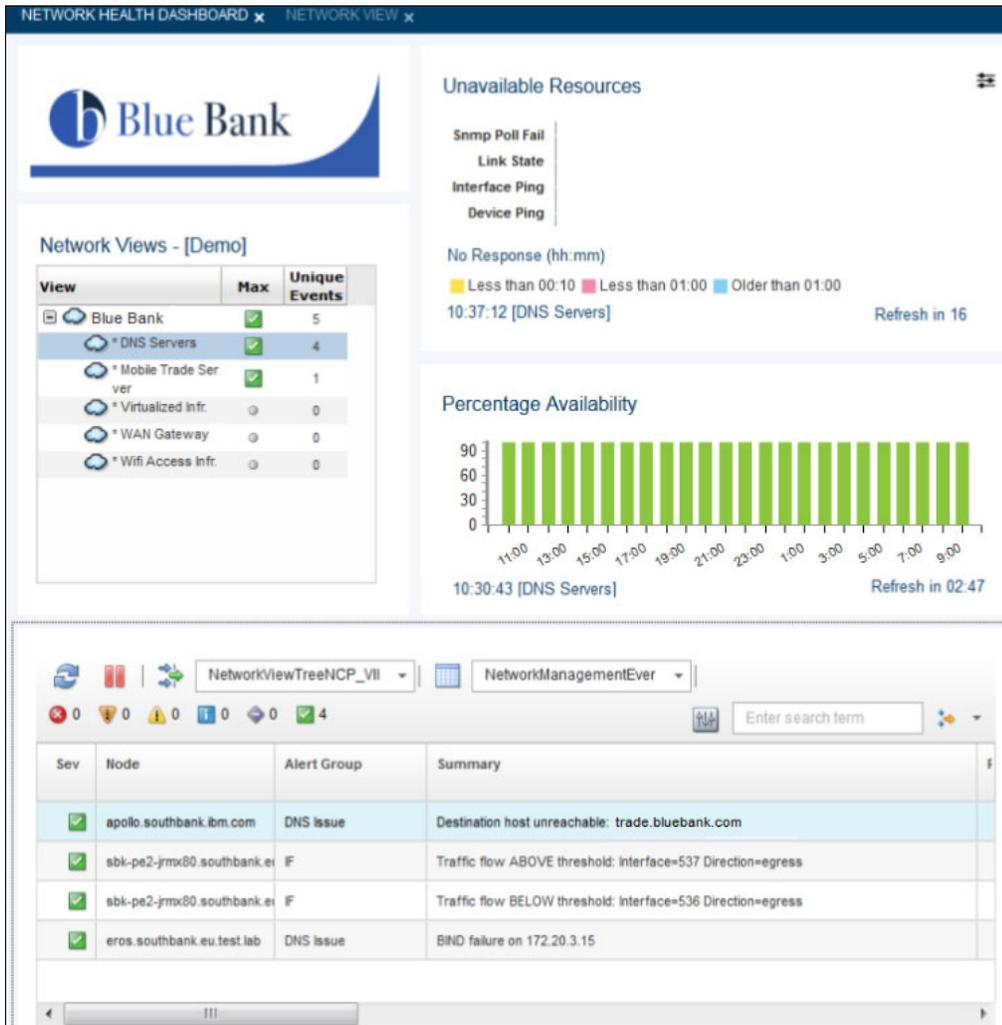

Figure 2-42 Confirmation that DNS Service is restored in a single view with Network Health Dashboard
17. By using the Network Health Dashboard, Brock verifies that DNS Network Operations are back to normal, as shown in Figure 2-42.